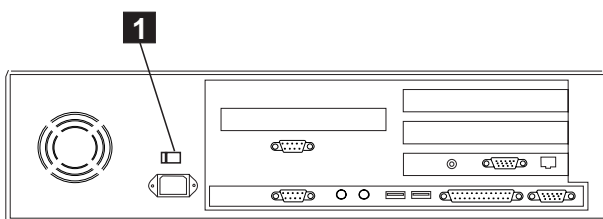

Figure 1-1. Power Switch
3. \_\_\_ **Warning** Before connecting the NAS to the power plug, check the setting of the voltage selection switch **1** at the rear of your NAS (refer to Figure 1-1). If you set this switch to the wrong position, you might damage your NAS when you turn it ON. If you need to adjust the voltage setting, use a ballpoint pen to slide the switch to the correct position.